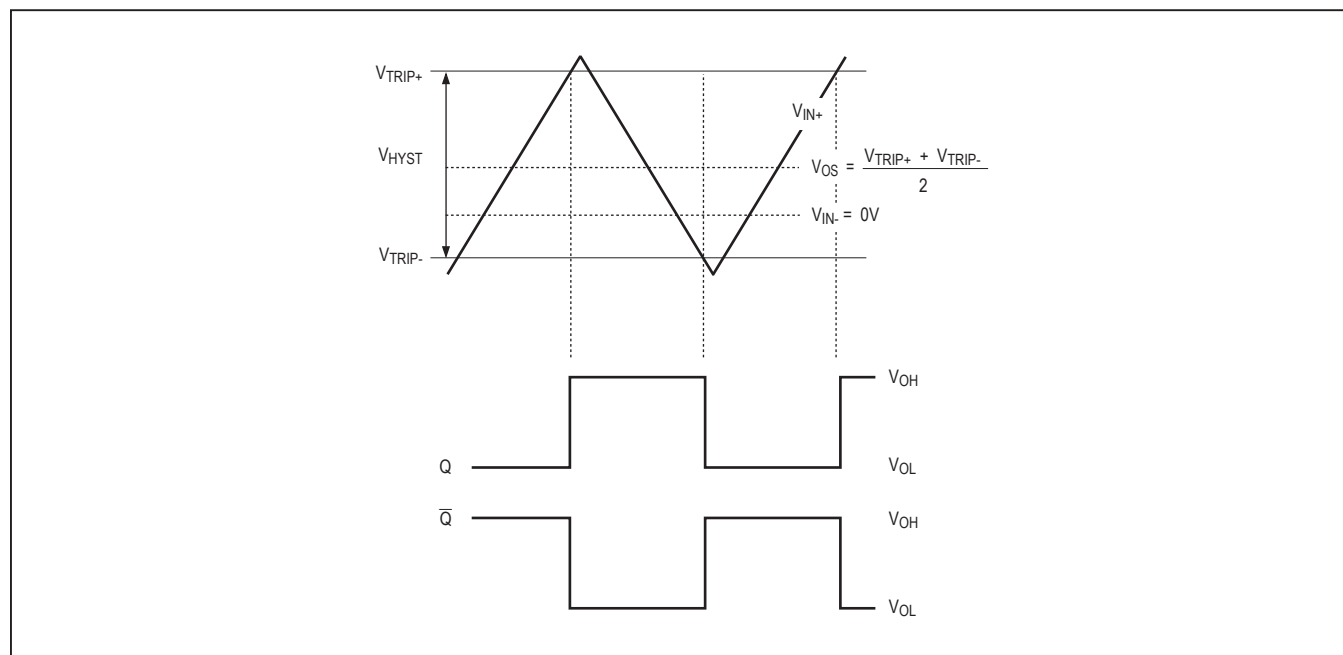

Figure 1. Input and Output Waveforms, Noninverting Input Varied
**Note 3:** The input-referred trip points are the extremities of the differential input voltage required to make the comparator output change state. The difference between the upper and lower trip points is equal to the width of the input-referred hysteresis zone. (See Figure 1.)
The added hysteresis of the MAX961–MAX964/MAX997/MAX999 creates two trip points: one for the rising input voltage and one for the falling input voltage (Figure 1). The difference between the trip points is the hysteresis. When the comparator's input voltages are equal, the hys-